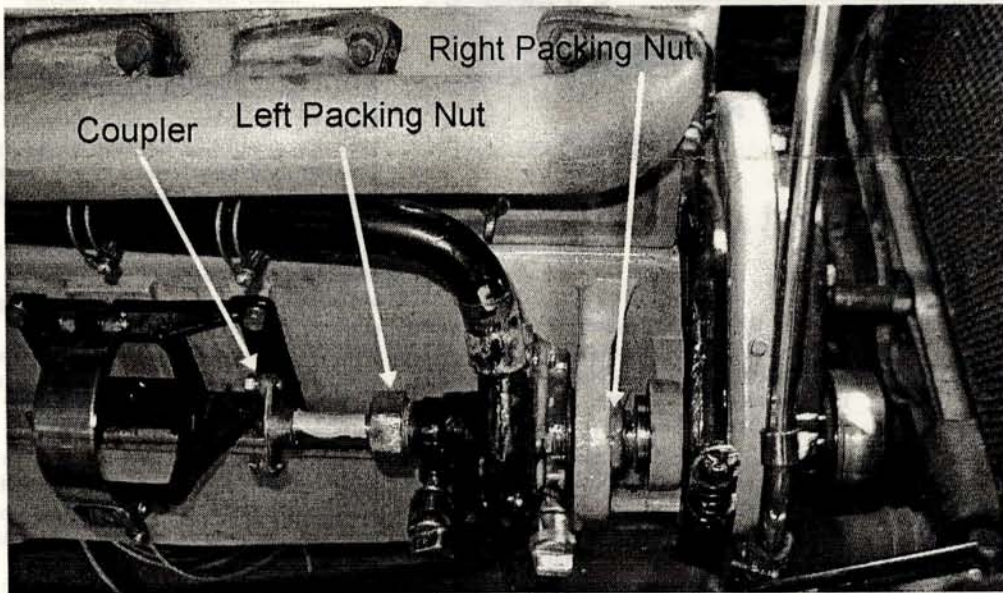

Figure 1
- Next pull the generator and distributor assembly at the belting style coupler (Fig 1). Now the water pump can be unbolted from the engine bracket (3 bolts).